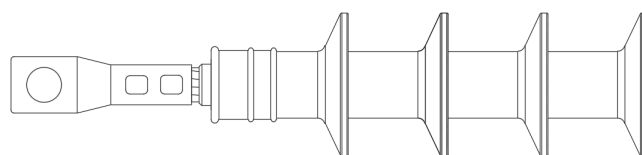

Fig.6
- Install the crimp terminal with specialized crimping pliers , and Install the shear bolt terminal as per the installation manual of the terminal. (Fig.6)